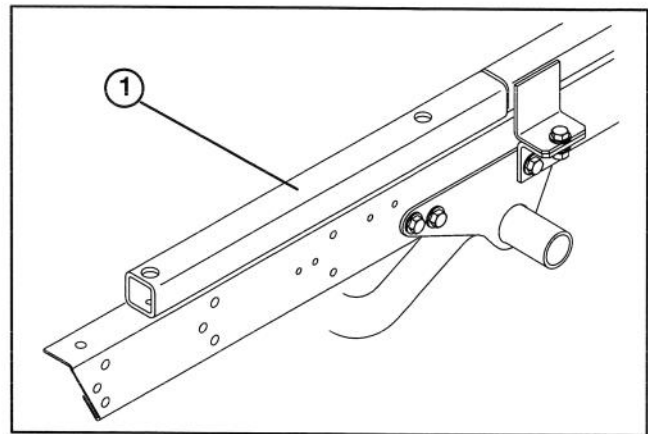

Figure 6
25. Remove any accessories mounted to top of frame in forward position such as a 1/3 bed, power platform, H.D. Hitch Frame extension tubes (Fig. 6), etc.